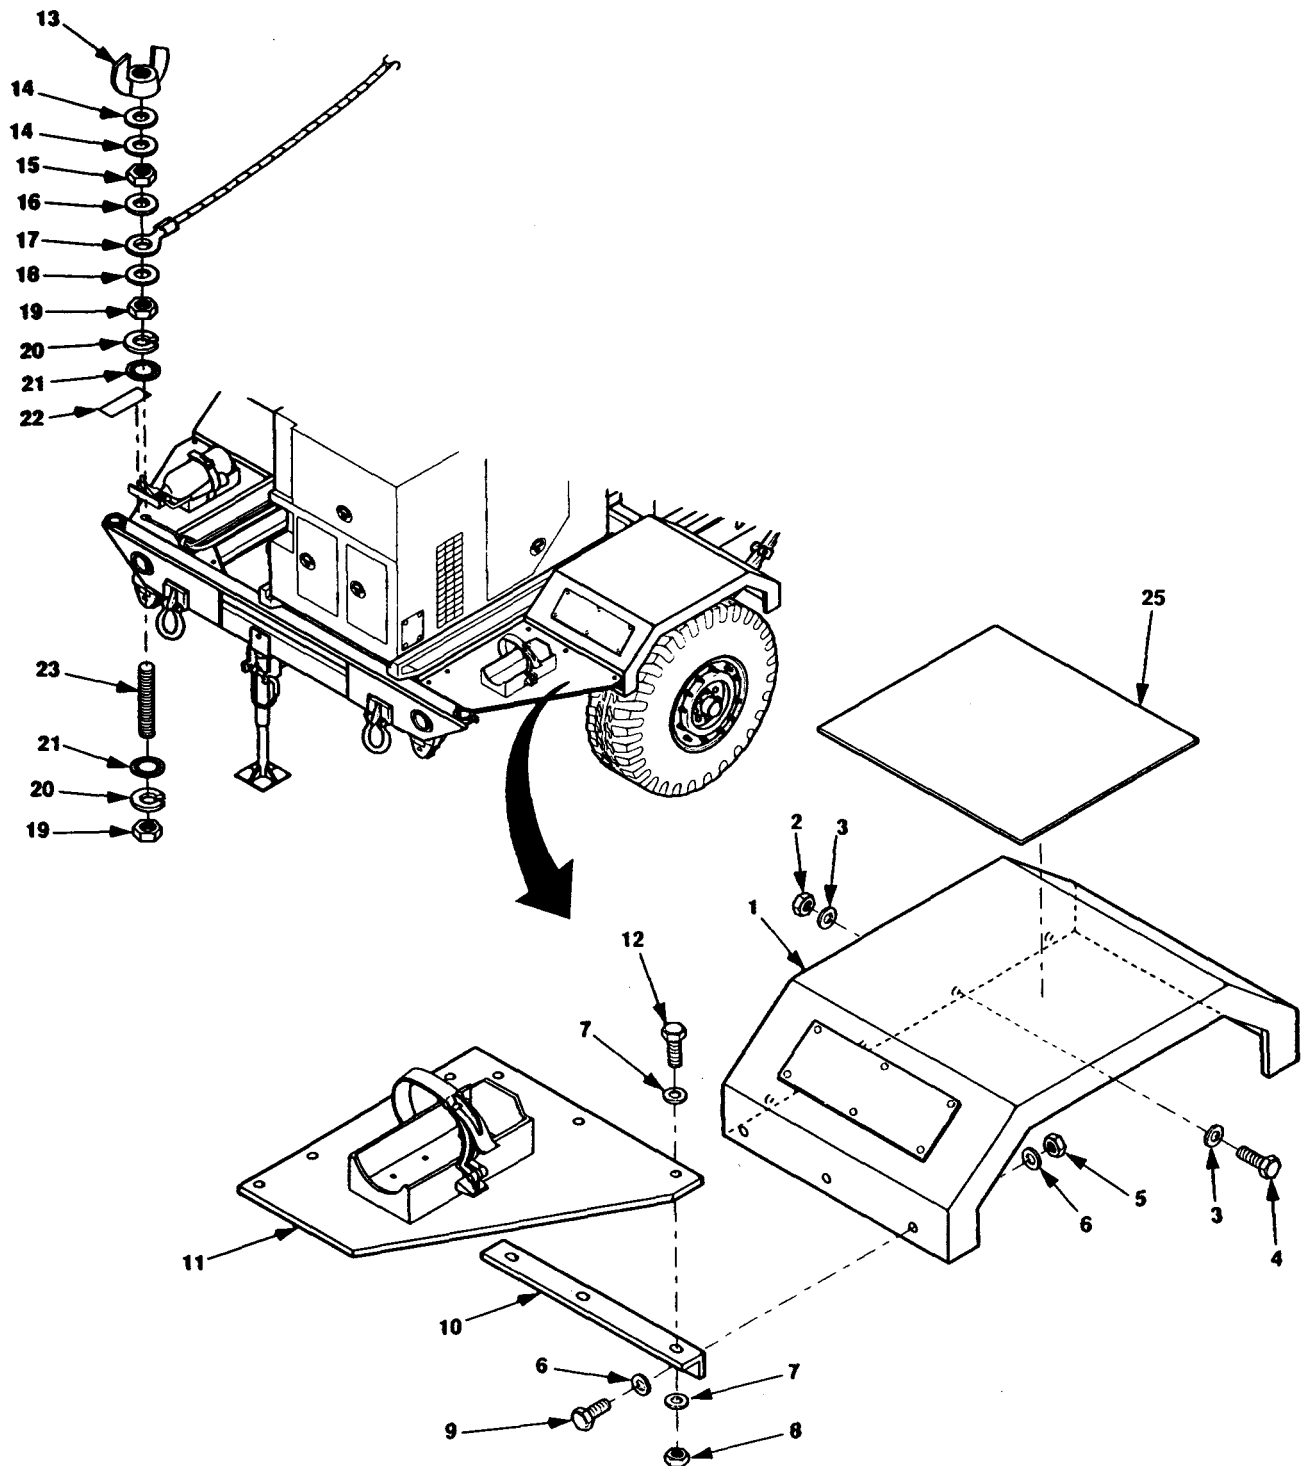

Figure 4-23. AN/MJQ-35 Splash Guard, Bracket, Ground Stud, and Fender.
5. Remove six self-locking nuts (8, figure 4-23), twelve flat washers (7), six cap screws (12), and splash guard (11).
6. Remove three self-locking nuts (5), six flat washers (6), three cap screws (9), and bracket (10).
7. Remove six self-locking nuts (2), 12 flat washers (3), six screws (4), and fender (1).
3. Install bracket (10, figure 4-23) on fender (1) using three cap screws (9), six flat washers (6), and three self-locking nuts (5).
4. Install splash guard (11) on bracket (10) and mounting rail using six cap screws (12), 12 flat washers (7), and six self-locking nuts (8).